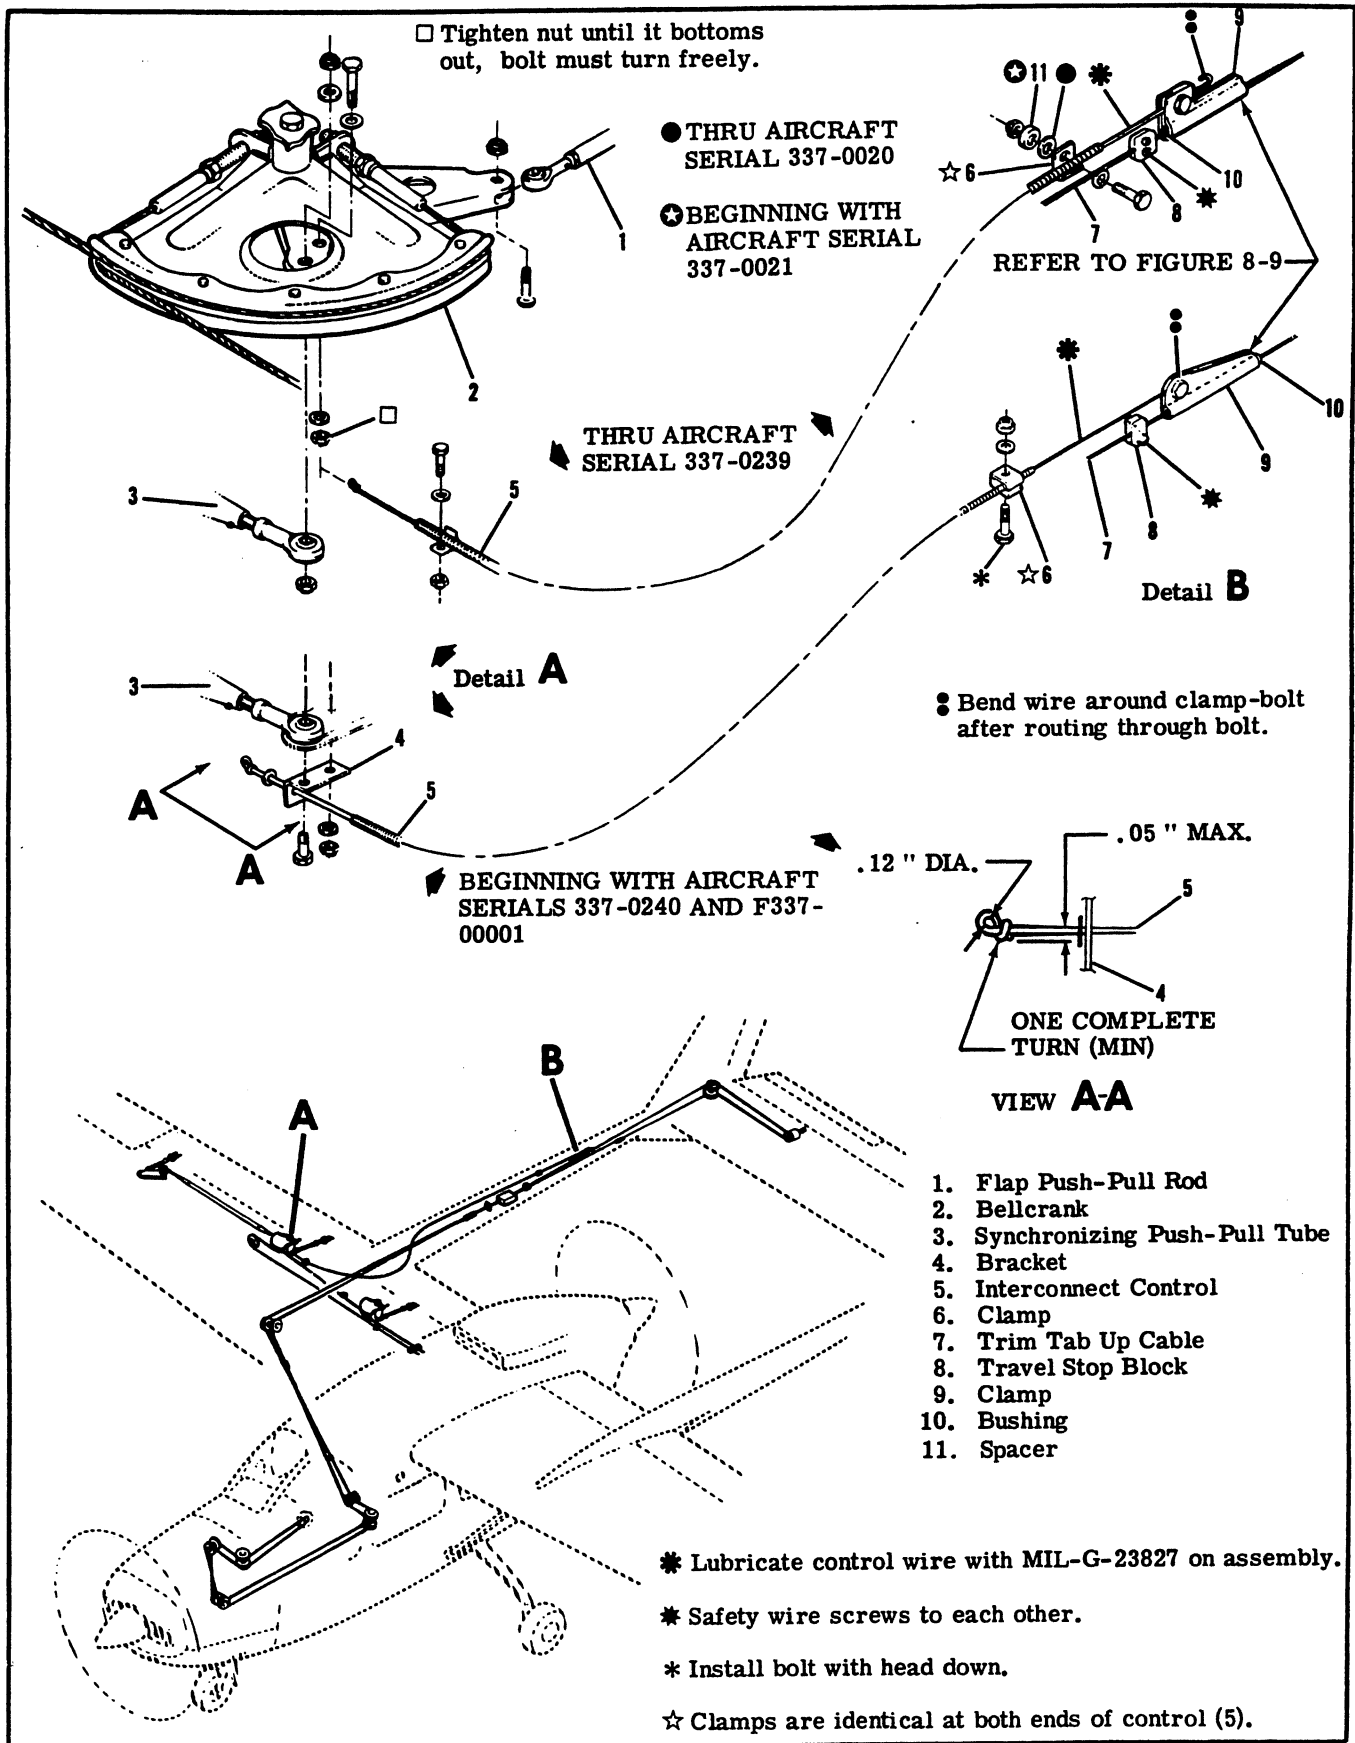

Figure 8-12. Flap/Elevator Trim Interconnect System
8-32. FLAP/ELEVATOR TRIM INTERCONNECT SYSTEM. (Refer to figure 8-12.)
8-35. REMOVAL AND INSTALLATION. (Refer to figure 8-12.)
If a new control wire is to be installed in casing, bend the forward end of wire as illustrated in figure 8-12, lubricate wire with MIL-G-23827, slide wire through washer and bracket (4) and insert wire into casing.
- i. Secure control casing in clamps (6) with approximately 1-inch extending beyond clamp at each end.
- j. Secure bracket (4) to bellcrank (2).
8-36. RIGGING. (Refer to figure 8-12.)